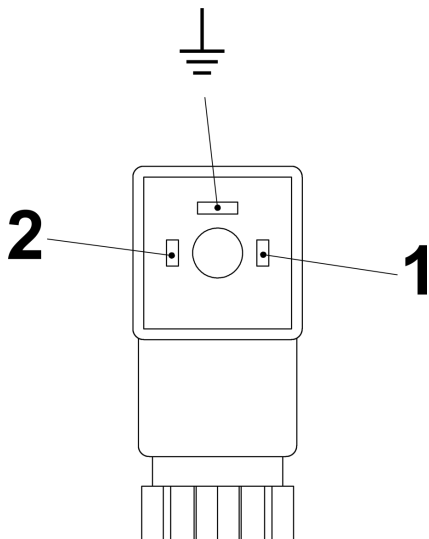
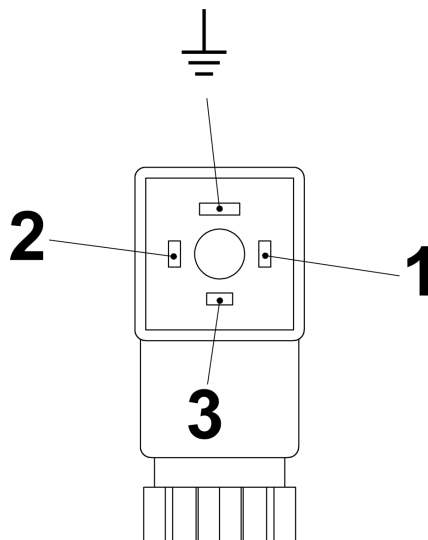

Fig. 25: Pin assignment, plug socket, Normally Open Contact (Form 15x50)
Fig. 26: Pin assignment, plug socket, Change-over contact (Form 15x50)
6. ➤ Make the connections as shown in the connecting diagram (Fig. 25 und Fig. 26)